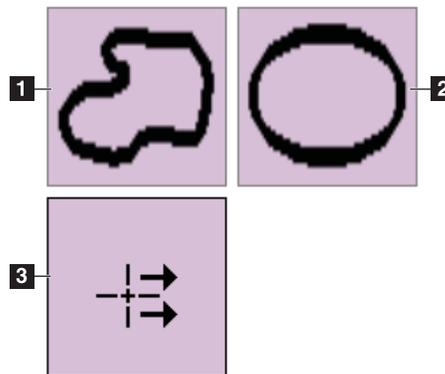

Figure 4-6: Icons Available on the Notices Tab
- **Notices:** Make annotations about the image. Use the Draw or Elliptical button (Numbers 1 and 2) in Figure 4-6 to mark the area of interest. Use the Arrow button (Number 3) to send the annotation as a Notice.